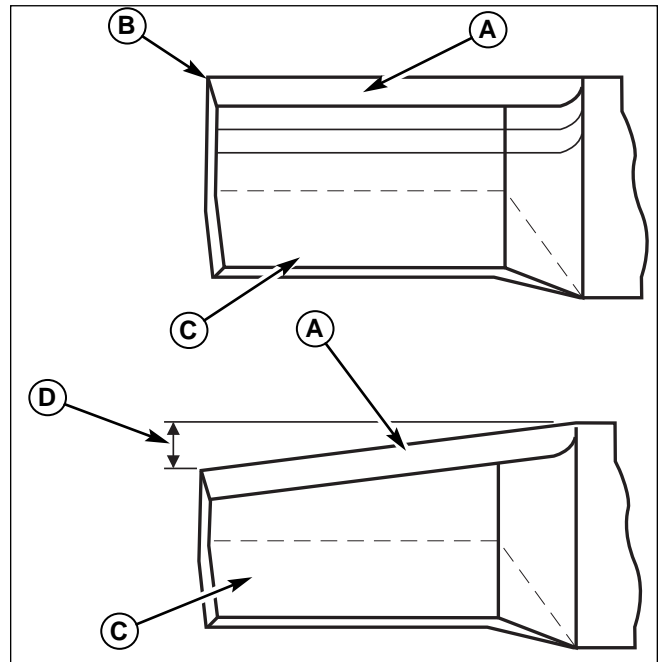

Figure 26. Inspecting the Mower Blade Tips
2. Inspect the mower blade (Figures 26 & 27). **Discard the mower blade if it has any of the below conditions.**
- A.) Has more than .5" (12,7 mm) of the mower blade metal removed from previous sharpening or wear (D, Figure 26).